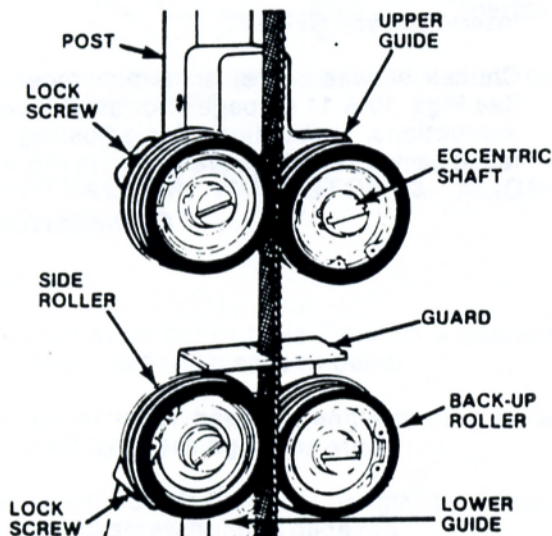

FIG. 41. ROLLER SAW GUIDES.
Choose between steel or carbide-faced inserts. See Figs. 10 & 11 on page 6 for steel insert guide instructions. Instructions for adjusting carbide-faced back-up bearings are shown in Fig. 41.
- (1) Select rollers which match band width to be used.
- (2) Place one back-up roller and one side roller in each guide block. See Fig. 41.